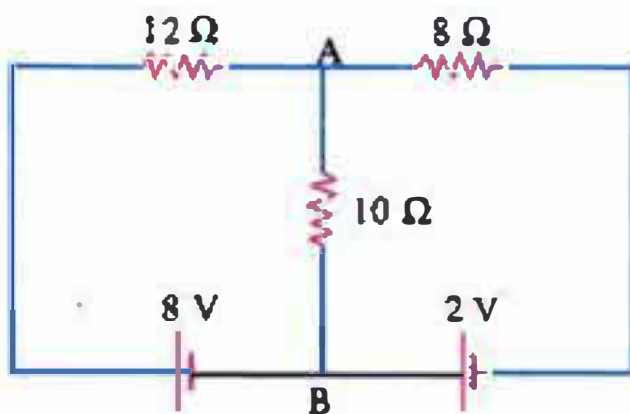

Fig. 3.5
1. Use Kirchhoff's laws to find the magnitude and direction of current flow through the 10Ω resistor of Fig. 3.5. [1/23 A from A to B]